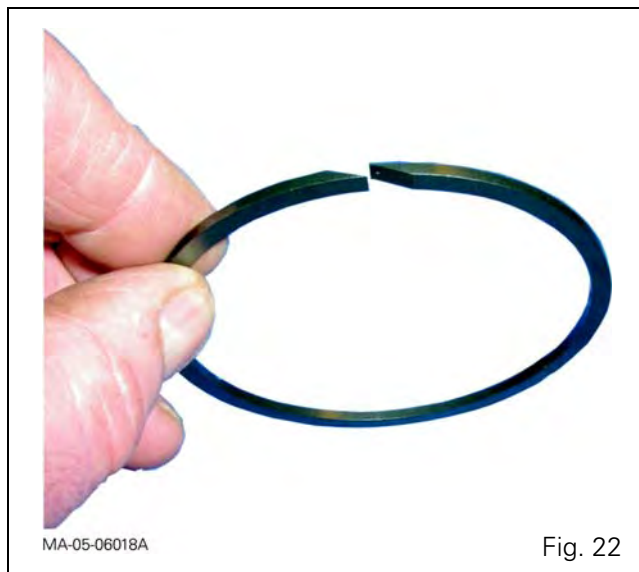

Fig. 22
67. Test-fit the new rings (31), making sure they turn freely in the grooves.
- their ends overlap correctly (Fig. 22).
70. Smear the washer (39) with grease and fit it on the ring carrier (33).